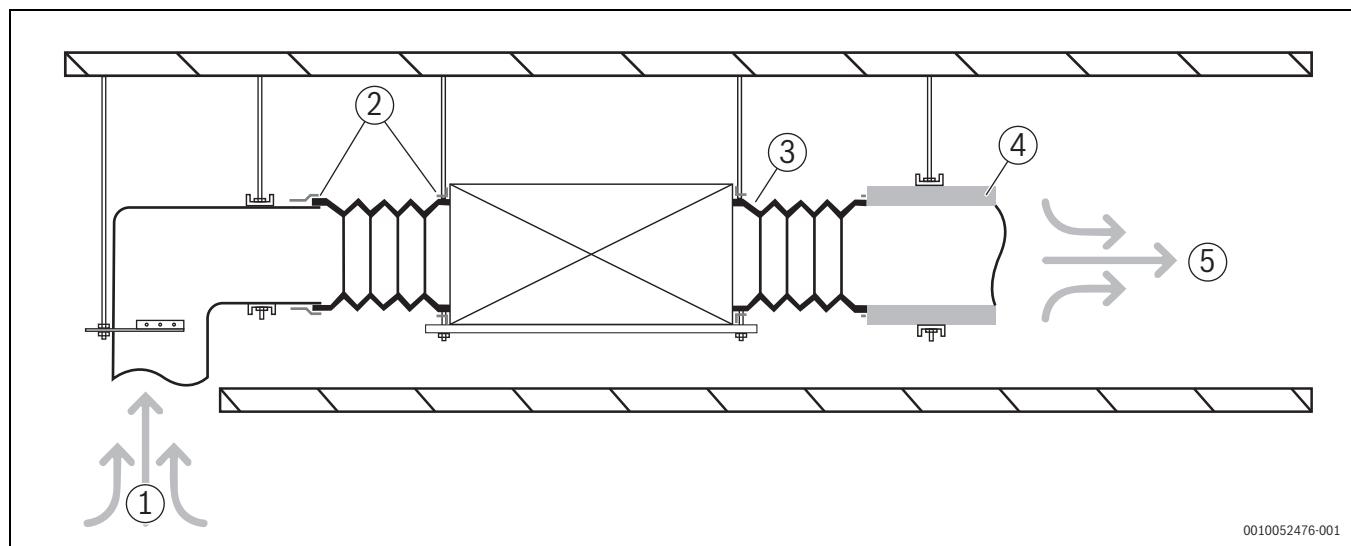

Fig. 28 Duct unit with static pressure requirements
6. Connect the air duct as shown in Fig. 28. On-site preparation required for all components except for the air conditioner.
**Legend Fig. 28:**